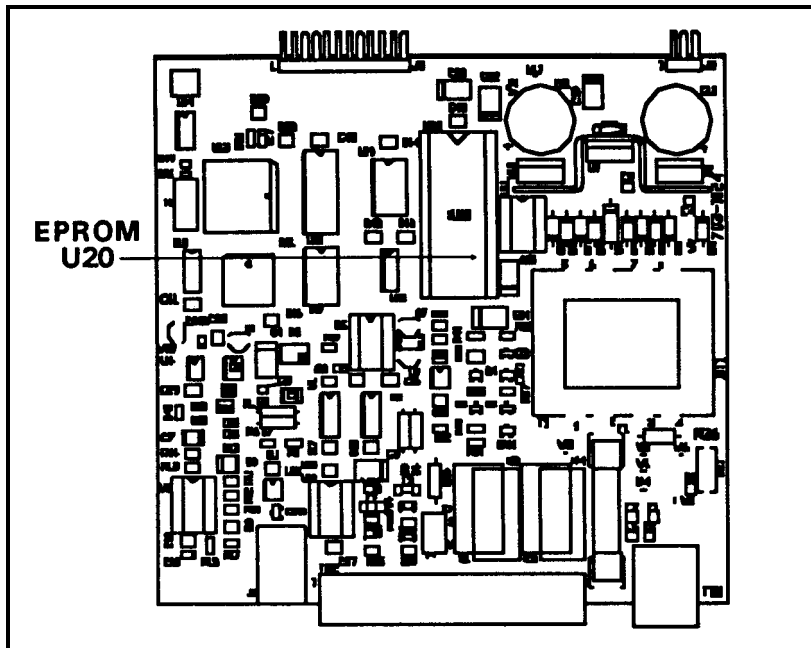

Figure 4-1: EPROM and Notch Location
1. Use Figure 4-1 to locate the EPROM on the controller board. The EPROM is labeled U20.
3. Place the new EPROM in the socket labeled U20 making sure that the notch on the EPROM matches the notch on the socket. See Figure 4-1 on the next page.